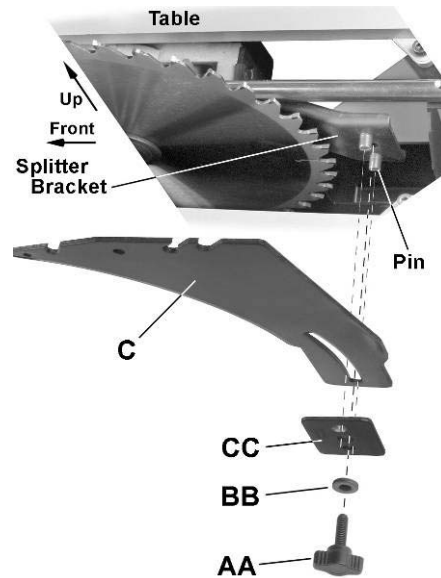
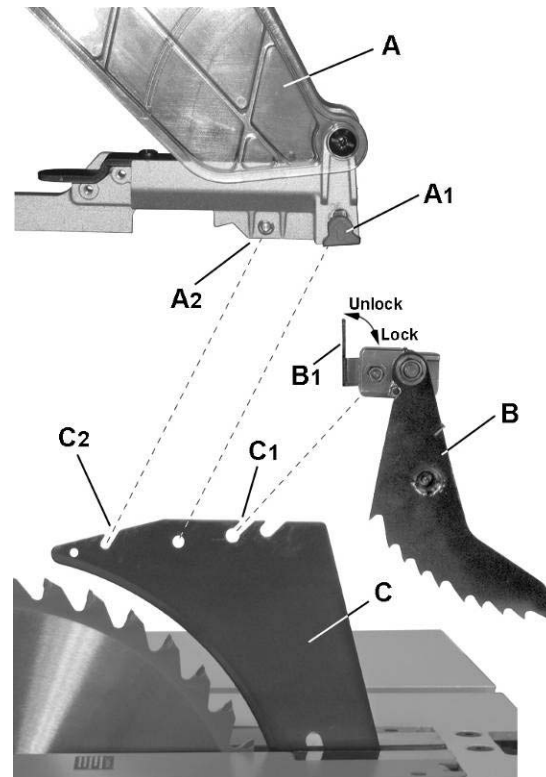

Figure 12
Figure 12a
*Splitter (riving knife) installation (Figure 12)*
3. Install the *splitter* (C) onto the *splitter bracket*, fitting the curved slot on the splitter over the bracket pins.
4. Install the *splitter plate* (CC), followed by the *flat washer* (BB) and *lock knob* (AA). Tighten the lock knob, leaving enough slack to manually adjust the *splitter* (C).
5. Raise the *splitter* (C) as high as it will go, then tighten the *lock knob* (AA) to secure the splitter in this position.
*Kickback pawl installation (Figure 12a)*
6. Place the *lock lever* (B1) on the *kickback pawl assembly* (B) in the *unlock* position.
7. Install the kickback pawl (B) onto the splitter.
*Blade guard installation (Figure 12a)*
9. Slide the *lock lever* (A1) on the *blade guard* (A) up and hold..
10. Place the *blade guard* (A) on the *splitter* (C), meshing the *pin* (A2) on the blade guard with the *slot* (C2) on the splitter.
12. Lift up on the *blade guard assembly* (A) to confirm that it is firmly secured to the *splitter* (C).